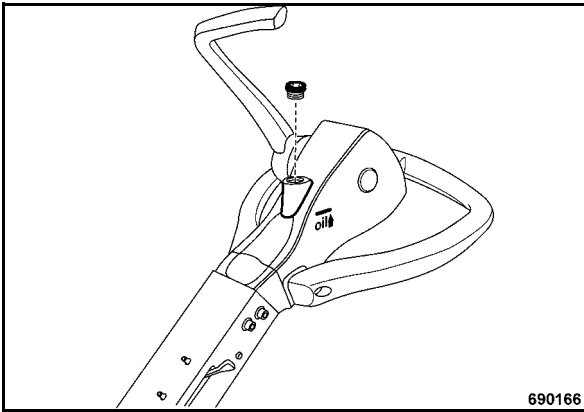

Fig. 68
- Screw in and tighten the plug (Fig. 68).